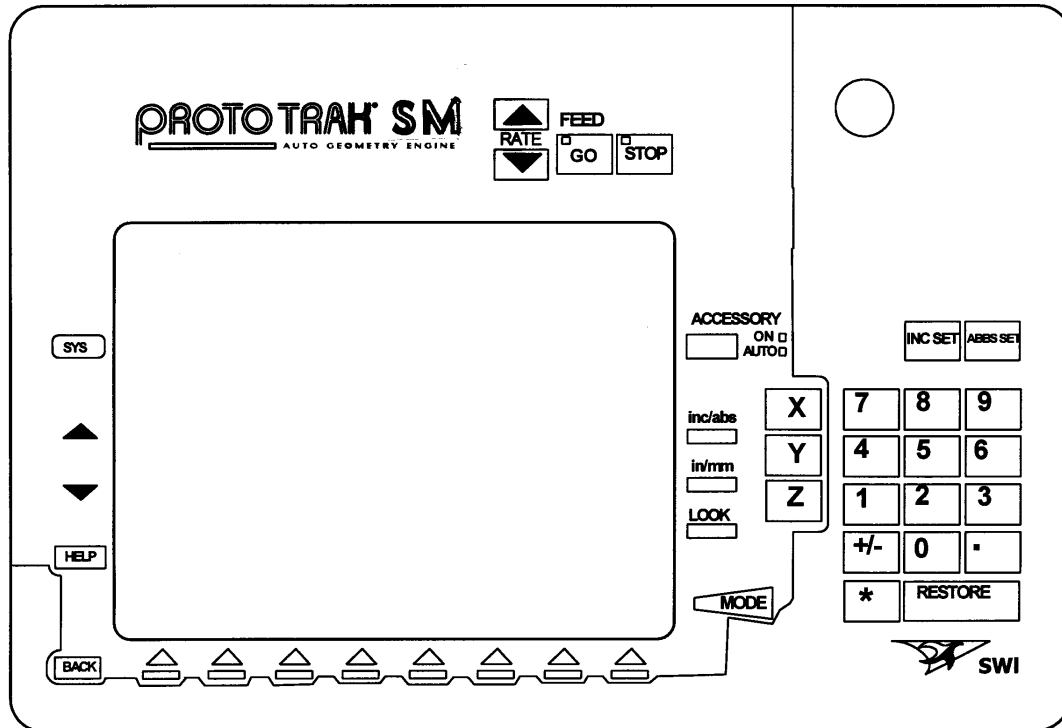

FIGURE 3.1 The ProtoTRAK SM CNC front panel
3.1 Display Pendant Front (see Figure 3.1)